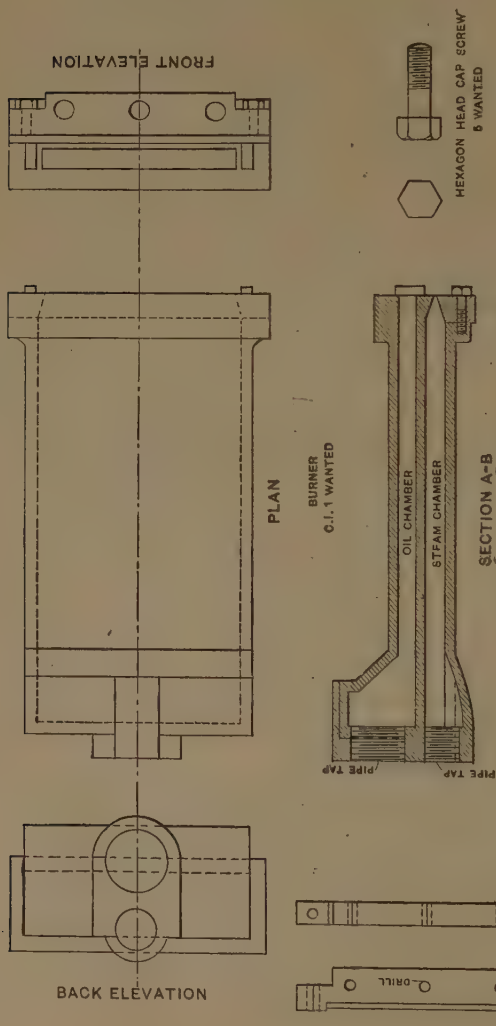

Fig. 420. Booth Oil Burner, Santa Fe Lines.
A. Referring to Fig. 420: There are two chambers, one for steam and one for oil, the latter being above and the former being supplied with a very fine slit, as shown at the left-hand end. The steam heats the upper chamber, and in time the oil as it flows from right to left in the figure. On issuing at the